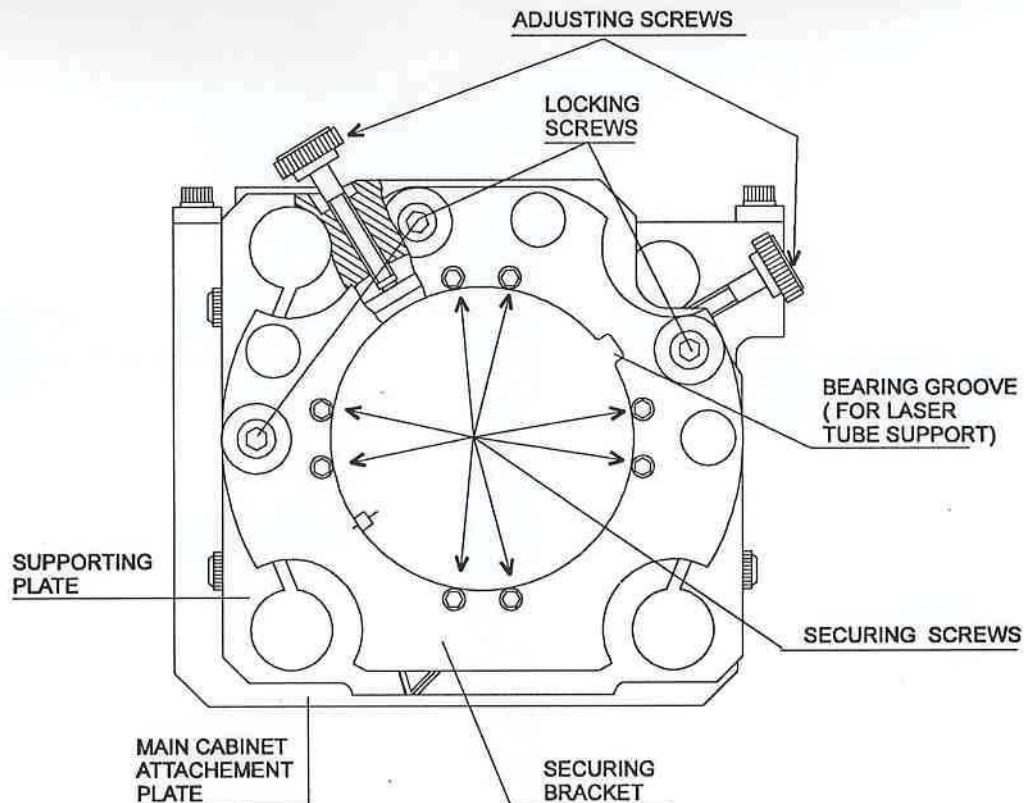

FIGURE 4-22B. CO2 LASER TUBE SUPPORTING PLATE - NEW DESIGN
3. Remove the eight CO2 laser rear securing screws and the three CO2 laser rear locking screws (with their discs). Loosen the three CO2 laser front locking screws (see Figure 4-22B).
1. Insert the front securing bracket (one-piece). Insert and tighten the eight CO2 laser front securing screws. Insert the three front locking screws (with their discs), but leave all locking screws loose in order to perform the tube alignment. See Figure 4-22B.